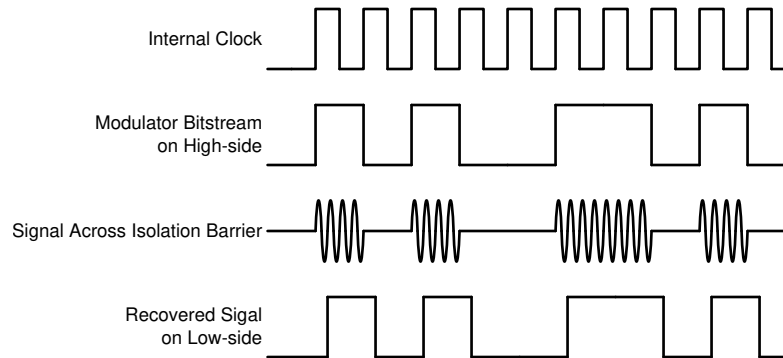

Figure 7-1. OOK-Based Modulation Scheme
The AMC1202 uses an on-off keying (OOK) modulation scheme, as shown in Figure 7-1, to transmit the modulator output bitstream across the SiO₂-based isolation barrier. The transmit driver (TX) shown in the Functional Block Diagram transmits an internally-generated, high-frequency carrier across the isolation barrier to represent a digital *one* and does not send a signal to represent a digital *zero*. The nominal frequency of the carrier used inside the AMC1202 is 480 MHz.